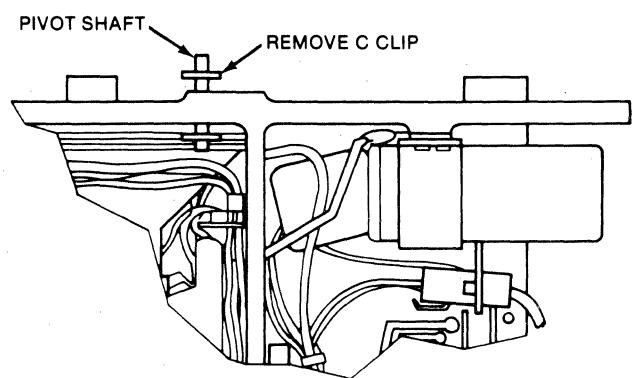

FIGURE 5-8. CARTRIDGE GUIDE REMOVAL
- b. Remove C-clip from pivot shaft. See figure 5-8.